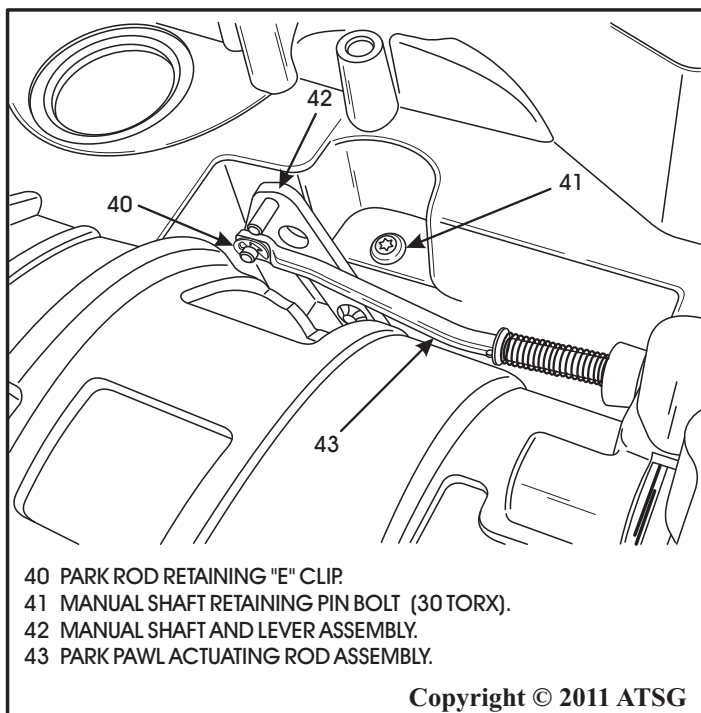

Figure 64
9. Install the park rod retaining "E" clip and insure that it is fully seated, as shown in Figure 64.